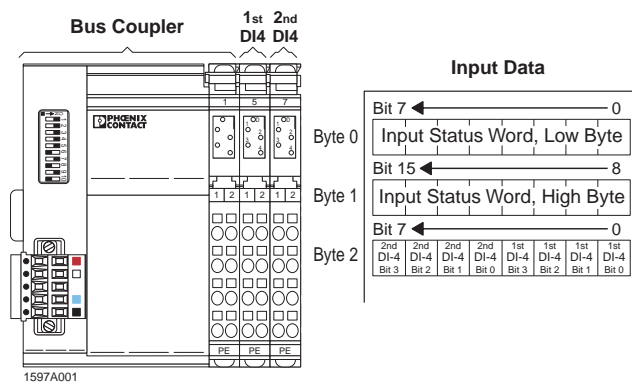

Figure 2. Example System
Figure 2 shows the example system that will be discussed. This system has 3 bytes of produced data. 2 bytes for the Inline Status word and 1 byte for the (2) DI-4's. By default in this example all bits associated to the produced data will generate a COS scan.
Figure 3 shows the Mask Index's and Mask Byte Value's that would be default for our example system shown in Figure 2. The Mask index works like a pointer that can be moved up or down to access the Mask Byte Value data that is located at the specified Mask Index. The following steps need to be taken to program the desired mask values.